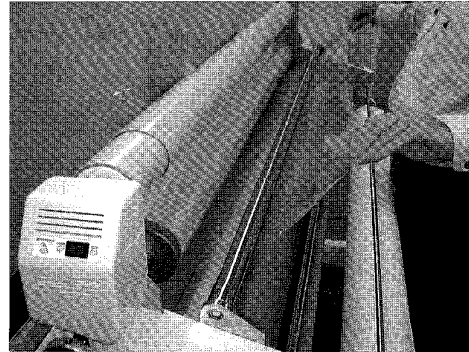

Figure 7
11. Without removing the film liver unroll the top film and guide it beneath the idler ar. Pull it up and around the idler bar and attach the end to the rewind core with tape. Figure 7